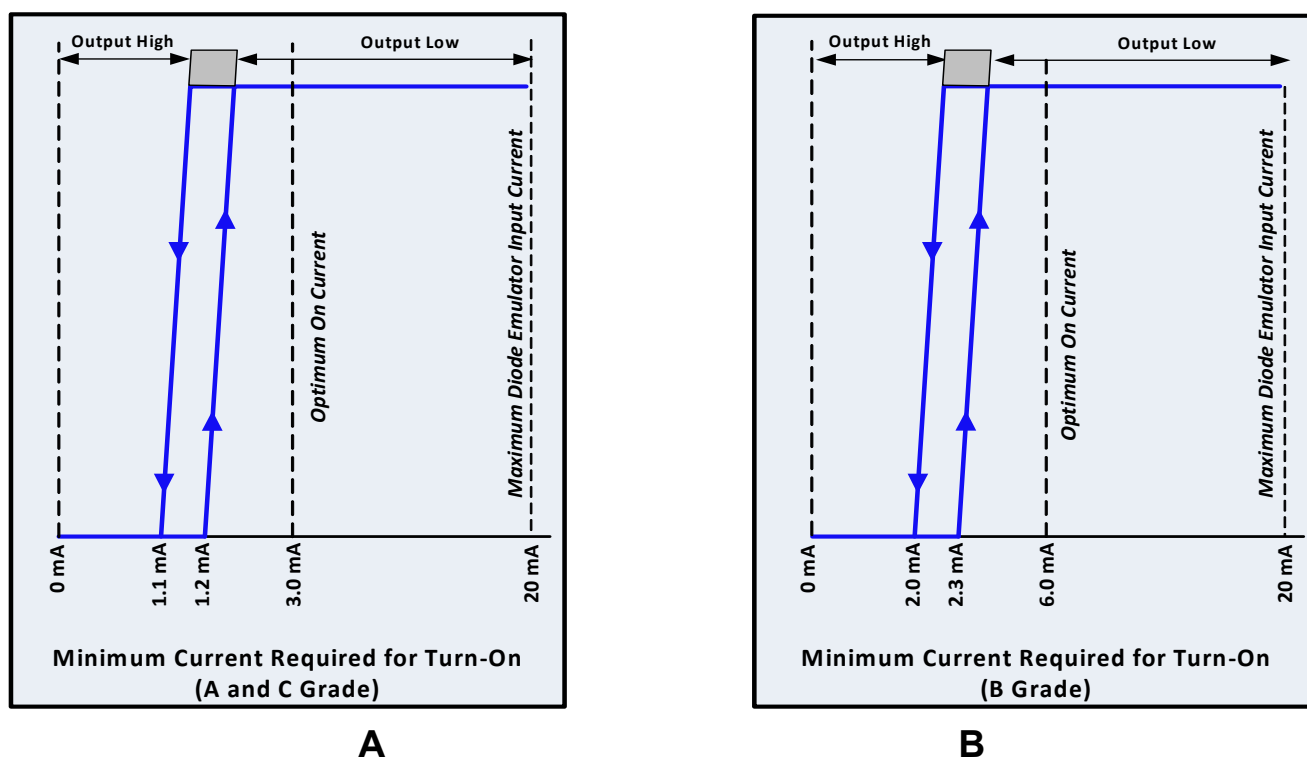
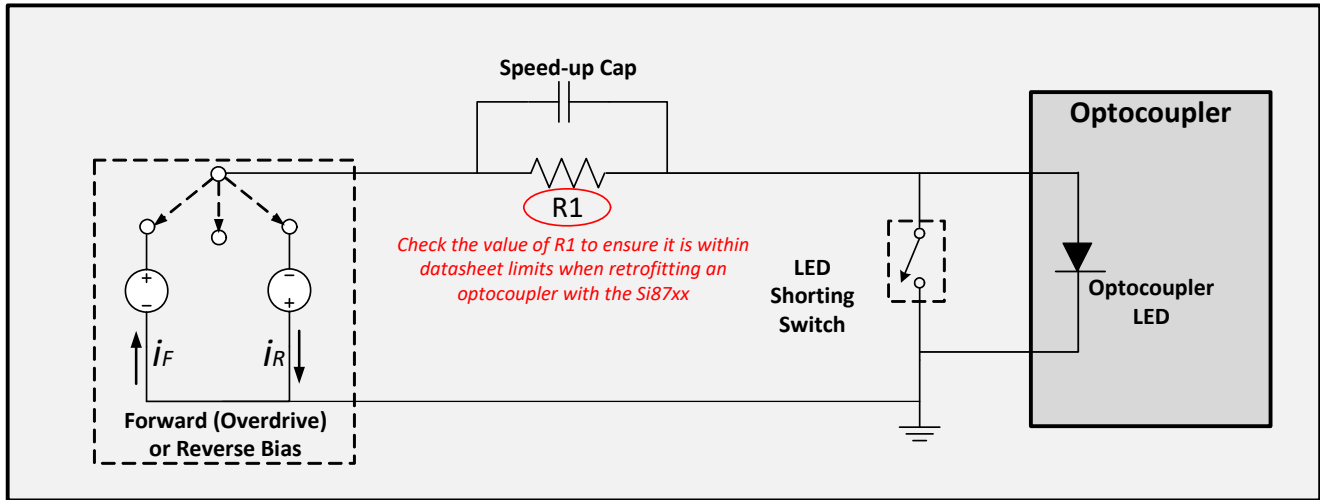

Figure 3. Device Transfer Characteristics
Figure 4. Optocoupler Supplemental Circuits
Optocouplers have external circuits for on/off LED control and current limiting. However, many applications add additional external circuitry to enhance performance, including circuits that reverse bias, overdrive, or short-circuit the LED to ensure that the correct state is maintained during a common-mode transient event. Other circuits include speed-up capacitors (low value capacitors placed across the LED current-limiting resistor as shown in Figure 4) to shorten propagation delay time. The Si87xx is compatible with these types of circuits; however most optocouplers draw higher input-side current than the Si87xx. As a result, retrofitting an optocoupler with the Si87xx often requires adjustment of the input-side series resistor R1 value. Ensure that the value of R1 is within the current limits shown in Figure 3. For more information on preferred input circuits, see the Si87xx data sheet available for download at <https://www.skyworksinc.com/technical%20documents>.
- Updated Figure 3 on page 3.
- Updated Figure 4 on page 4.